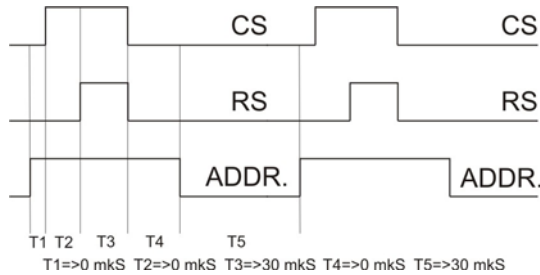

Figure 2
- Hold signals D and AD stable and apply the control signals CS and RS as described in figure 2.
- “%” = apply control signals CS and RS as described in figure 2.
“%” = apply control signals CS and RS as described in figure 2